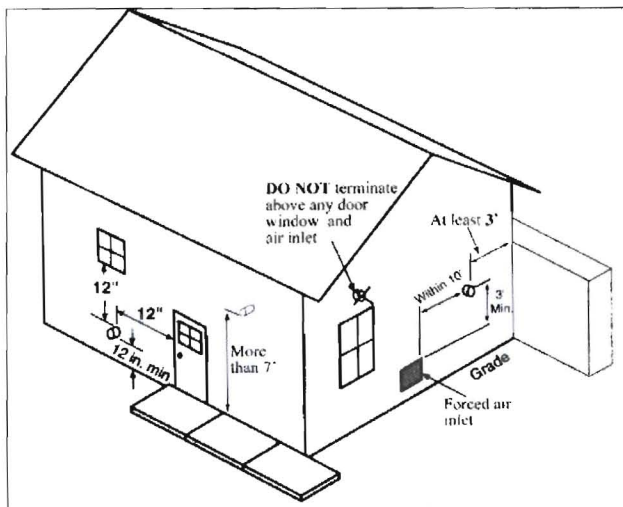

Fig. 24: Termination Clearances of Category IV System
5. The vent termination must also maintain the following clearances; as shown in Fig.24.
5. The vent termination must also maintain the following clearances; as shown in Fig. 24, page 23.